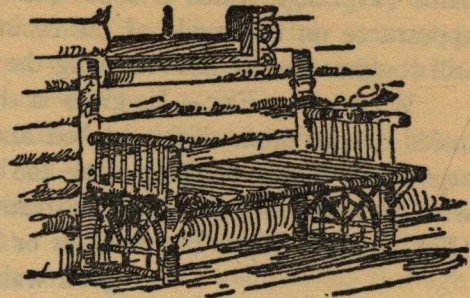

FIG. 39.
**WINDOW SEAT.**—This may be made by building a frame of good strong sticks, supported by rustic brackets or crooks, the seat being made of small straight sticks, about one inch in diameter, laid close together (Fig. 39).